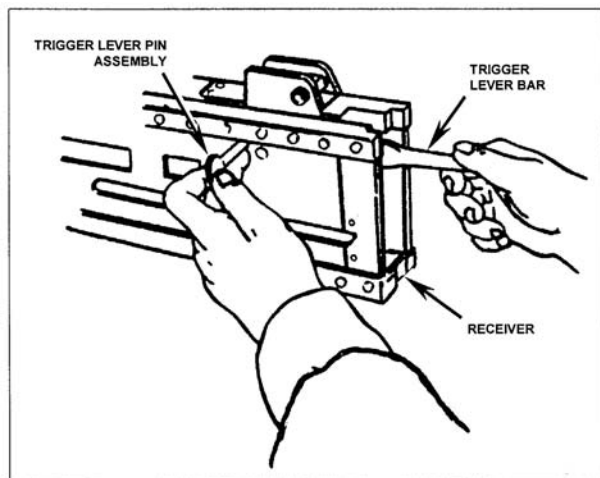

Figure 071-022-0001-23. Assembly of the trigger lever
a. Assemble the trigger lever (figure 071-022-0001-23).